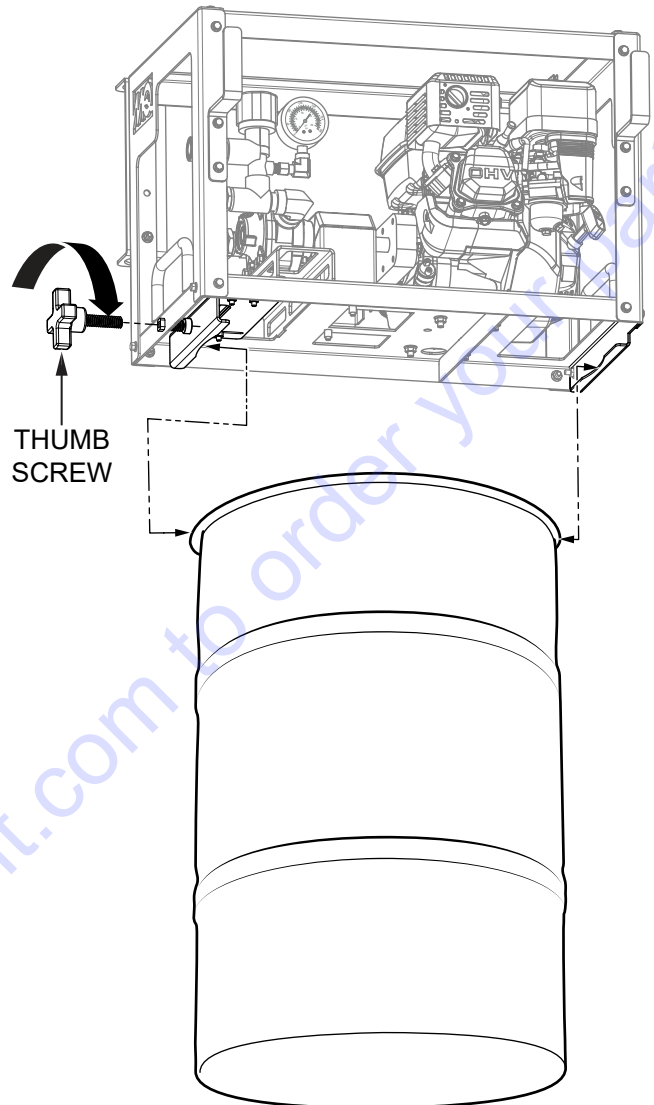

Figure 46. Secure Barrel Mount to Drum
5. Make sure the end of the barrel mount opposite the thumb screw is pressed flush against the drum cover, and turn the thumb screw to secure the barrel mount to the drum (Figure 46).